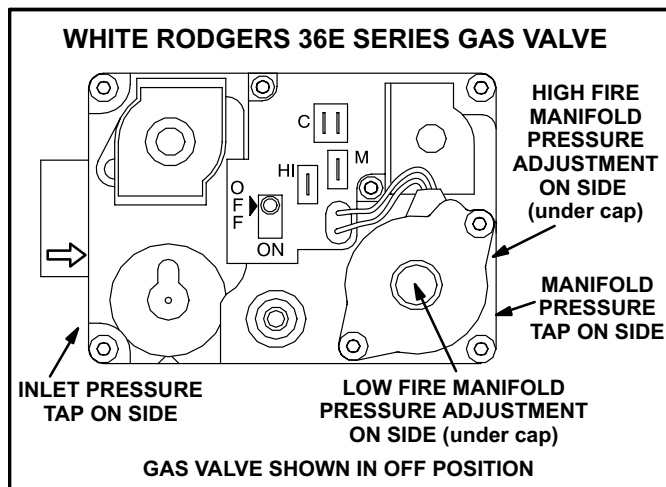

FIGURE 17
The G60UHV(X) uses a two-stage gas valve manufactured by White Rodgers or Honeywell (figures 17 and 18). The valve is internally redundant to assure safety shut-off. If the gas valve must be replaced, the same type valve must be used.
**G60UHV(X) units are equipped with a hot surface ignition system. Do not attempt to light manually.**
- 6 - *White Rodgers 36E Gas Valve* - Switch gas valve lever to **OFF**. See figure 17.
- 8 - *White Rodgers 36E Gas Valve* - Switch gas valve lever to **ON**. See figure 17.
When testing supply gas pressure, connect test gauge to inlet pressure tap on the gas valve See figure 17 or 18. Check gas line pressure with unit firing at maximum rate. Low pressure may result in erratic operation or underfire. High pressure can result in permanent damage to gas valve or overfire. See table 29 for operating pressure at unit gas connection (line).
- 1 - Connect a test gauge to manifold pressure tap on gas valve. See figure 17 or 18 for tap location. Start unit and allow 5 minutes for unit to reach steady state.